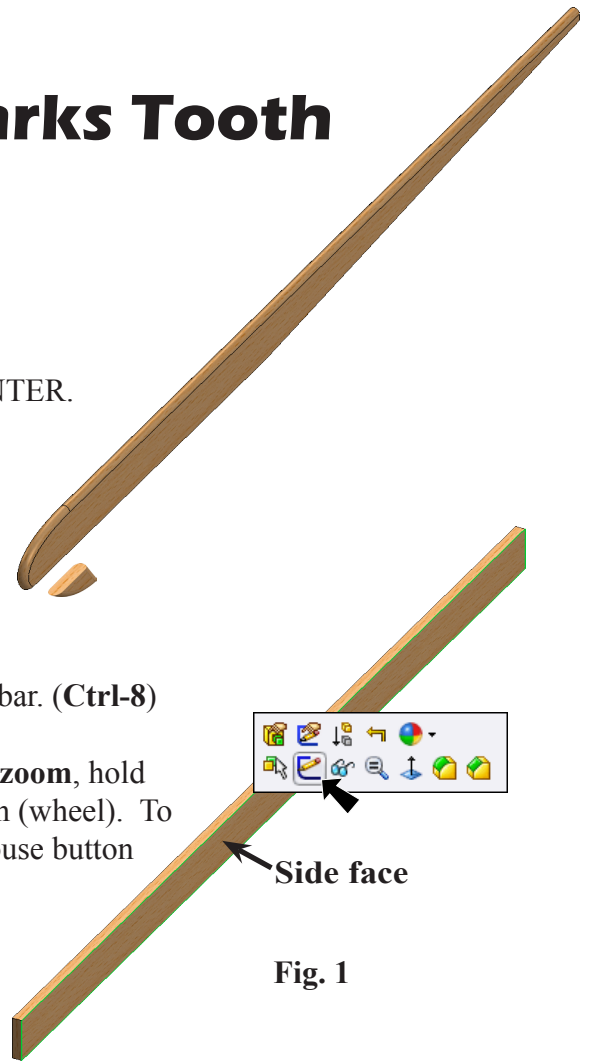

Fig. 1
Step 1. Click the **left side face** of the Fuselage Blank and click Sketch  on the Content menu, Fig. 1.